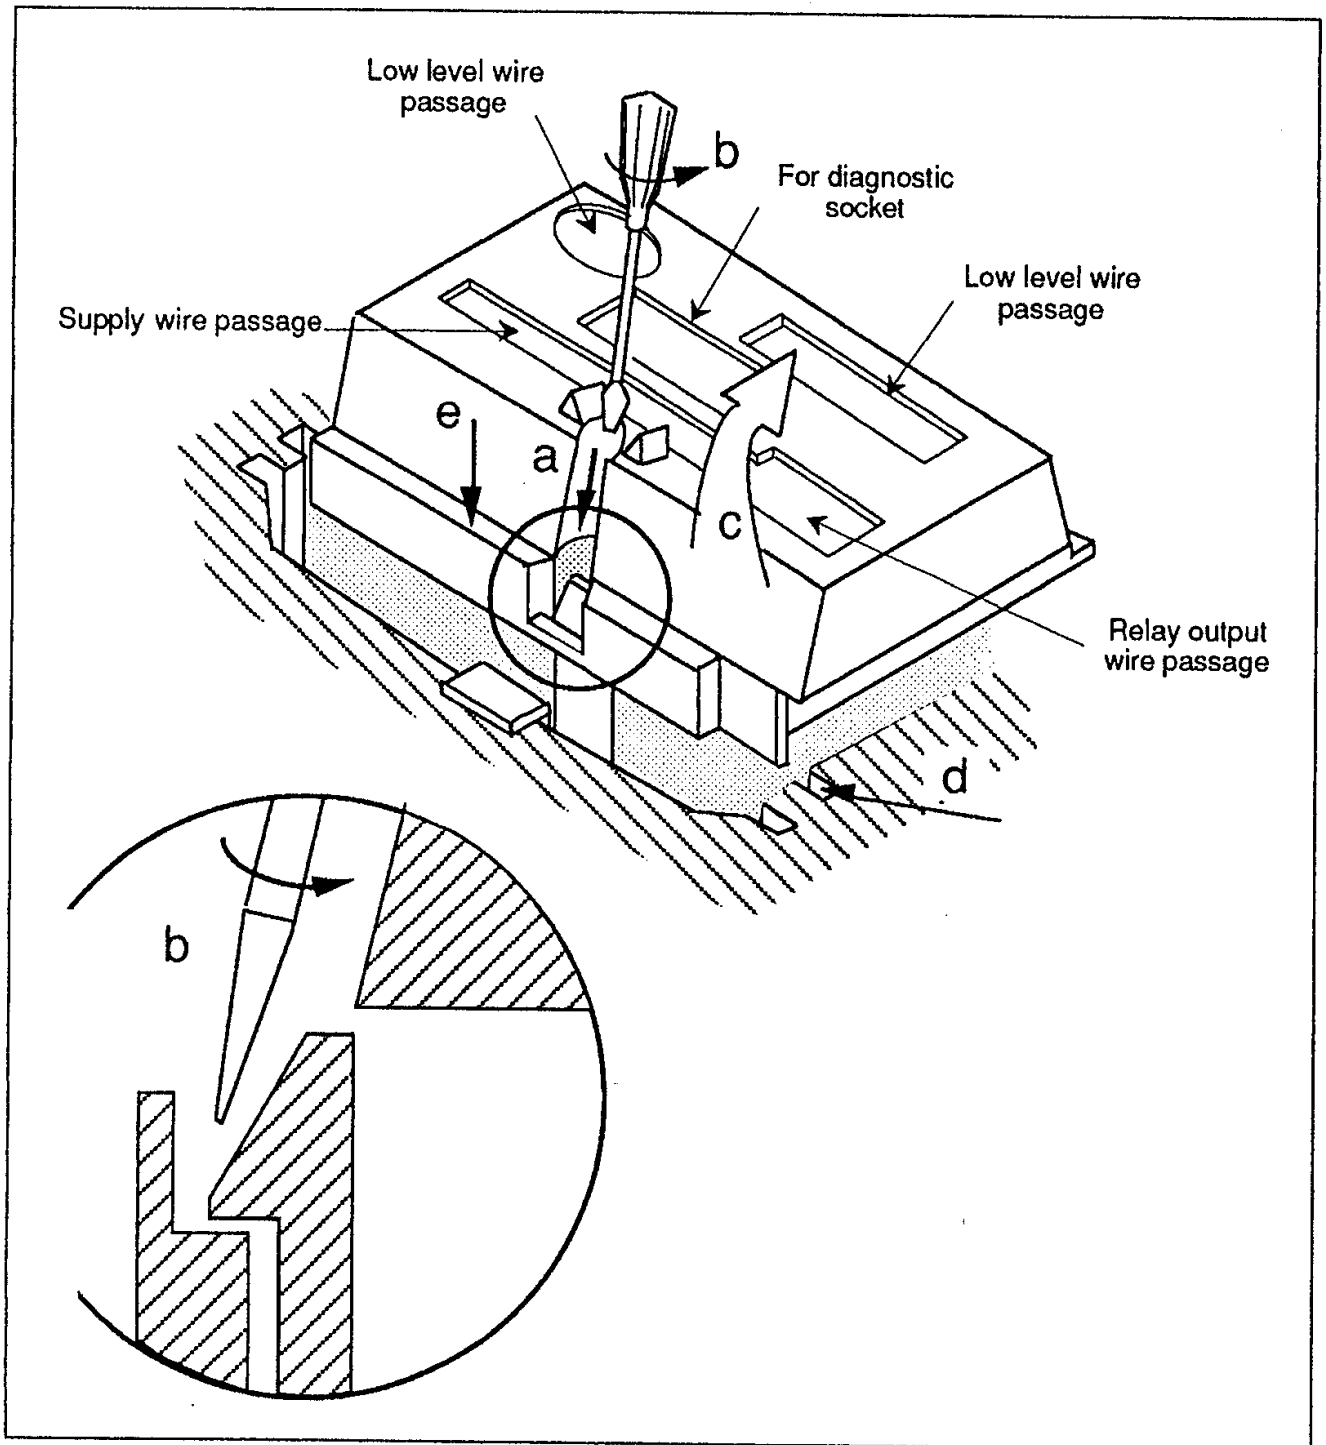

Figure 3-7 Removing the cover
- Insert the screwdriver between the two centring devices located at the rear and push it downwards as far as possible (see figure 3-7).